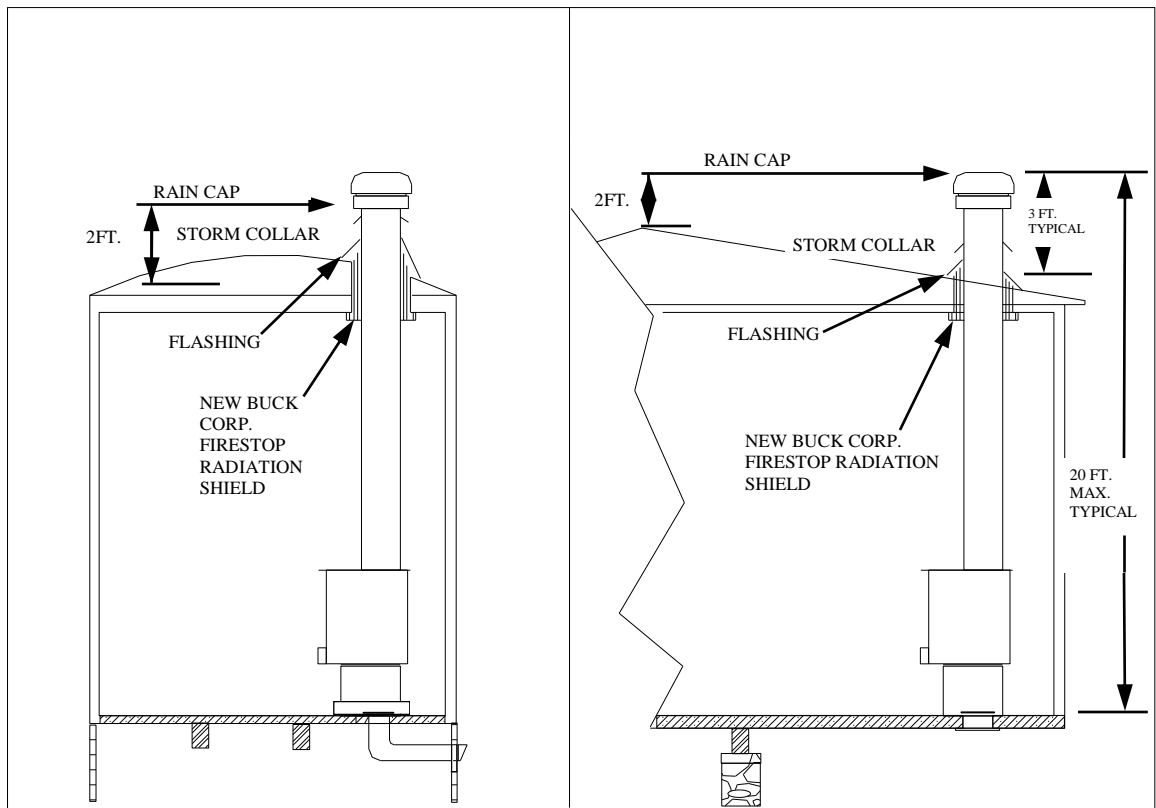

FIGURE 5
- (b) Chimney pipe height is at least 2' higher than any part of roof within 10' of the chimney. (See Figure 5).